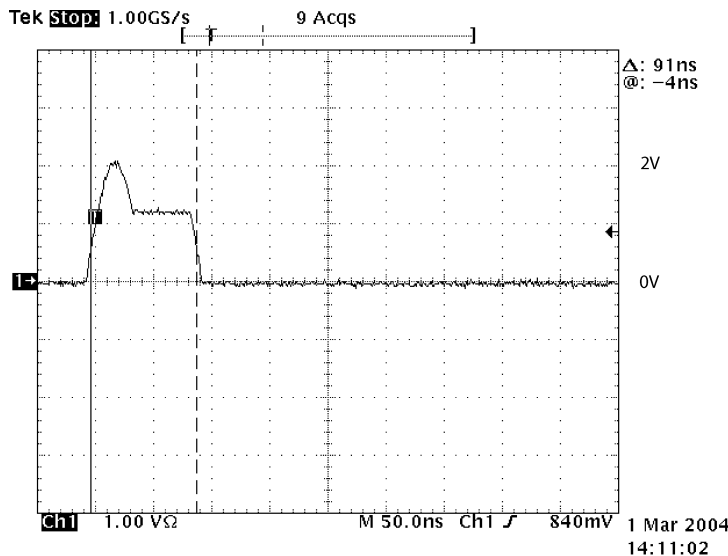

Figure 5. Auto-Negotiation Link Pulse
2. Differential probe with 100- Ω termination can be placed on the RJ-45 connectors. The link pulse has (a) 2V pulse amplitude with pre-emphasis; (b) pulse width of 100 ns; (c) pulse period of 150 μ s (Figure 5).